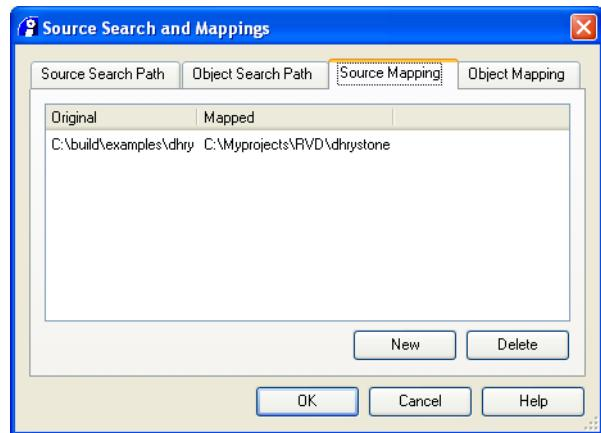

Figure 4-19 Source Mapping tab
2. Click the **Source Mapping** tab. Figure 4-19 shows an example: